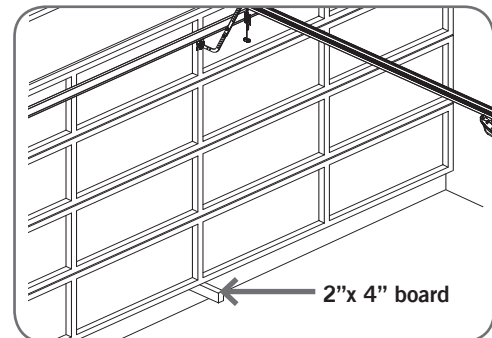

Fig.6.5.2
- Place an object approximately 1-1/2" (38mm) high (or a 2"x 4" board laid flat) on the floor under center of garage door opening (**Fig.6.5.2**).